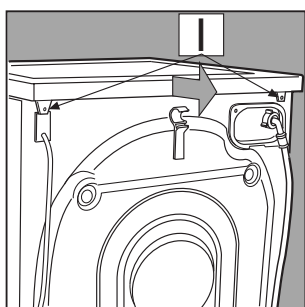

Fig. 3
2. Remove the covering lid by unscrewing the two screws I, and then pull it towards you [fig. 3].